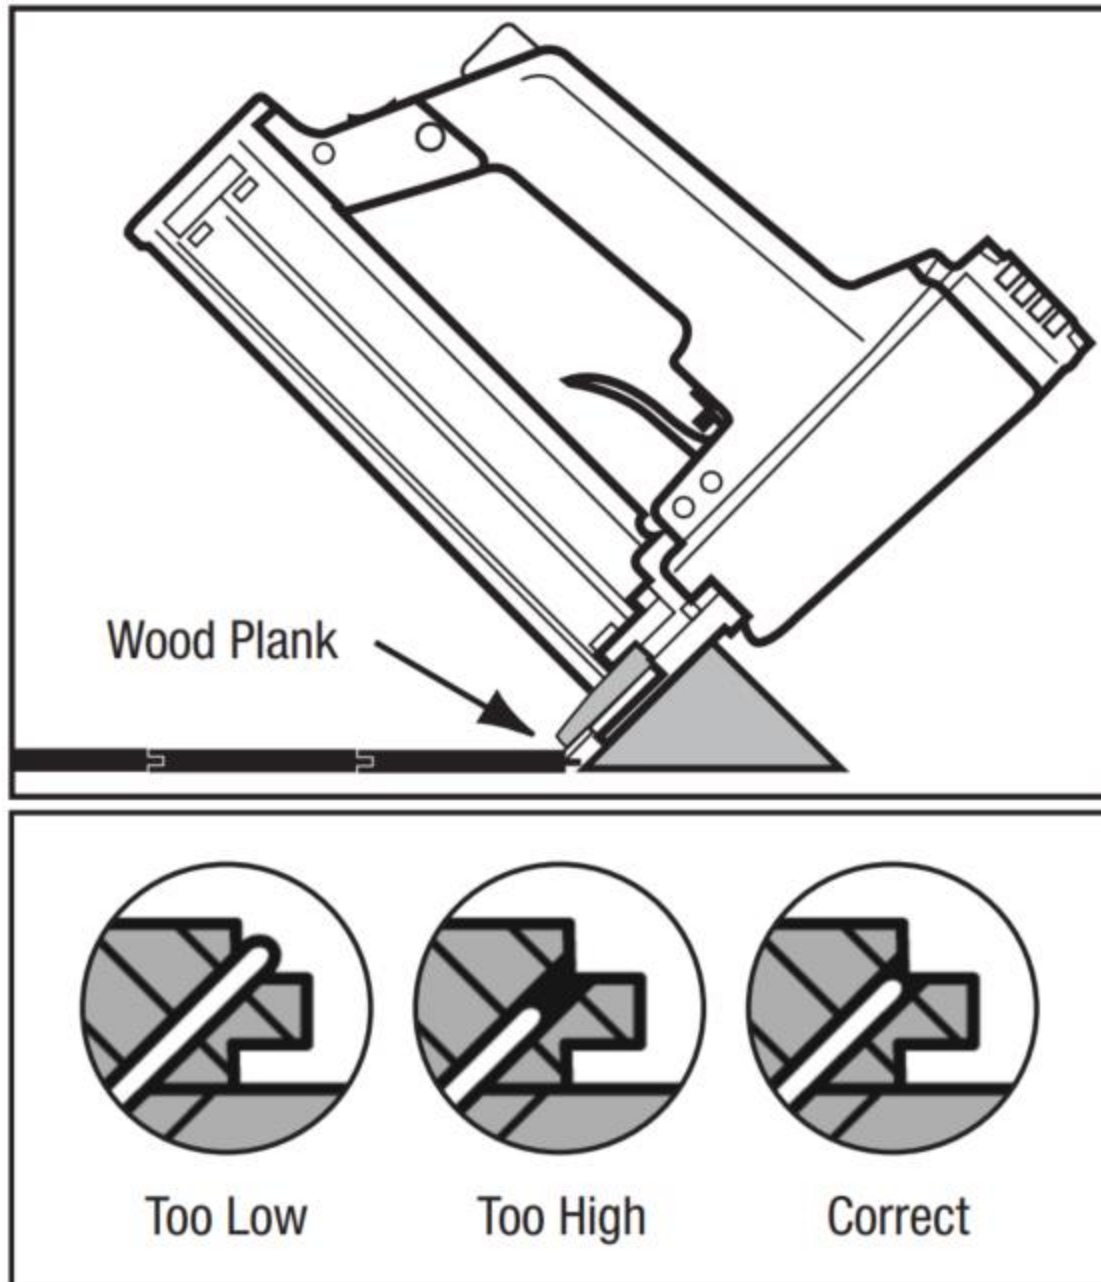

Figure 8
- Set compressor at 70 PSI. If tongue damage occurs, lower air pressure (Figure 8).